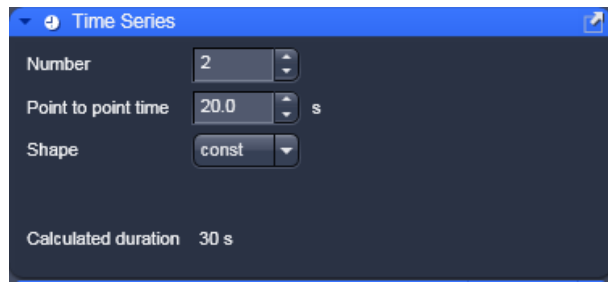

Fig. 288 Time Series panel – constant shape activated
- Click on the **Time Series** tab to open the **Time Series** tool (Fig. 288). Click again to close the panel.